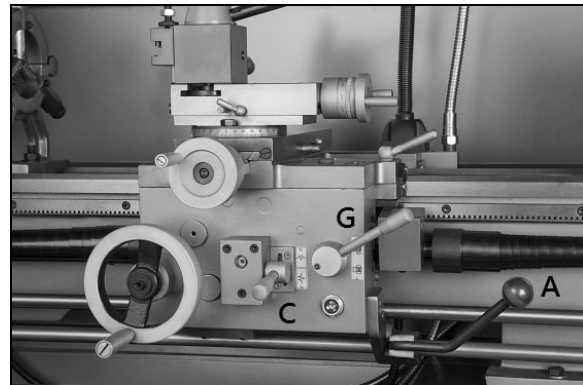

Figure 10-3
1. Move the forward/reverse selector (A, Figure 10-3) up or down depending on desired direction.
Push lever (C, Figure 10-3) down to engage cross feed. Pull lever up to engage longitudinal feed.
3. Engage half nut lever (G, Figure 10-3).